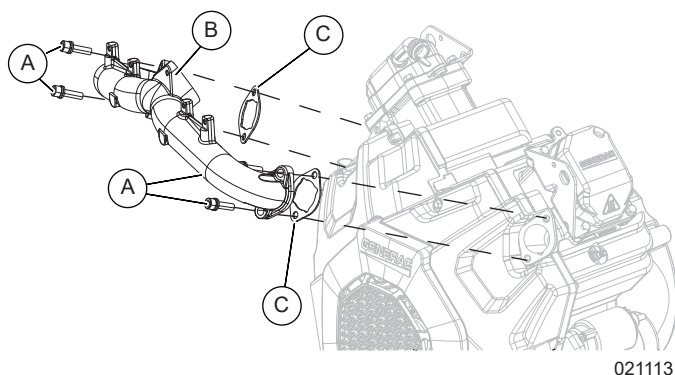

Figure 12-22. Install Intake Manifold onto Cylinder Head
1. See Figure 12-22. Place two intake manifold gaskets (C) onto cylinder heads (one on each intake port).